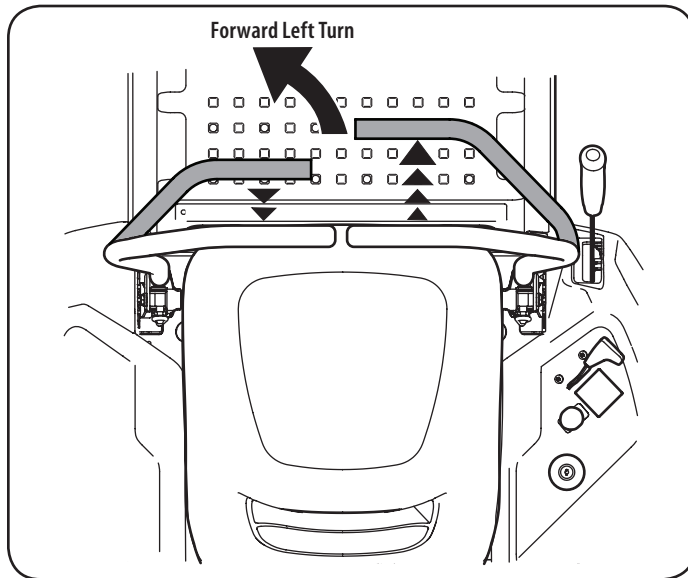

Figure 11
1. To turn to the left, move the left drive control lever rearward of the right lever. See "Figure 11".